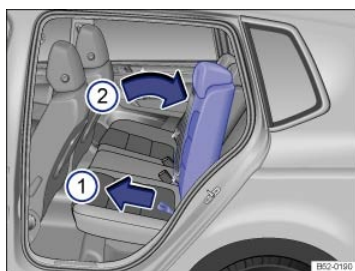

Fig. 77 Adjusting the second row seat backrest.
- *With the pull strap:* Place one hand on the section of the second row backrest you wish to adjust and pull the respective pull strap with the other hand ⇒ Fig. 77①. Move the rear backrest to the desired position by hand against the force of the spring. Release the pull strap and lock the rear backrest by gently tilting it forward or backward. With the pull strap, you can fold the section of the backrest all the way forward and latch it in the folded position ⇒ Folding the second row seats forward.
- *With the lever (for vehicles with seven seats):* Pull the lever $\Rightarrow$ Fig. 77② and push or pull the backrest to adjust the section to the desired position. With the lever, you can also move the seat forward to make entering the third row of seats easier, and then push it back $\Rightarrow$ Entry assistance for the third row seats.